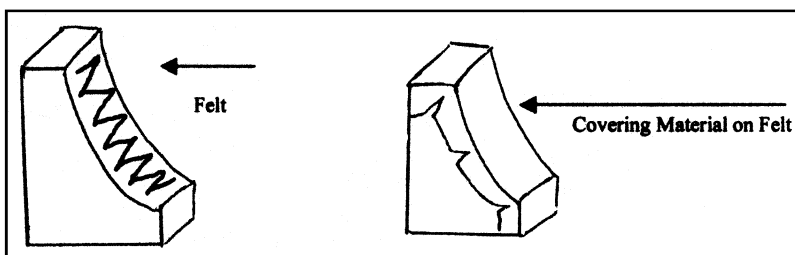

Fig. 2. Covering the arc
- Adhere a wider strip of Gore-Tex or other smooth fabric to cover felt (fig. 2).